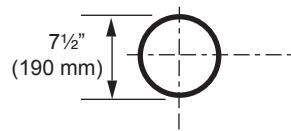

Figure 16 - Locate vent opening on wall
Locate vent opening on the wall. It may be necessary to first position the fireplace and measure to obtain hole location. Depending on whether the wall is combustible or noncombustible, cut opening to size. *Figure 16* (For combustible walls first frame in opening.)
Combustible Walls: Cut a 9 $\frac{5}{8}$ "H x 9 $\frac{5}{8}$ "W (244 x 244 mm) hole through the exterior wall and frame as shown. *Figure 16*
- Establish vent hole through the wall. *Page 17, Figure 16*